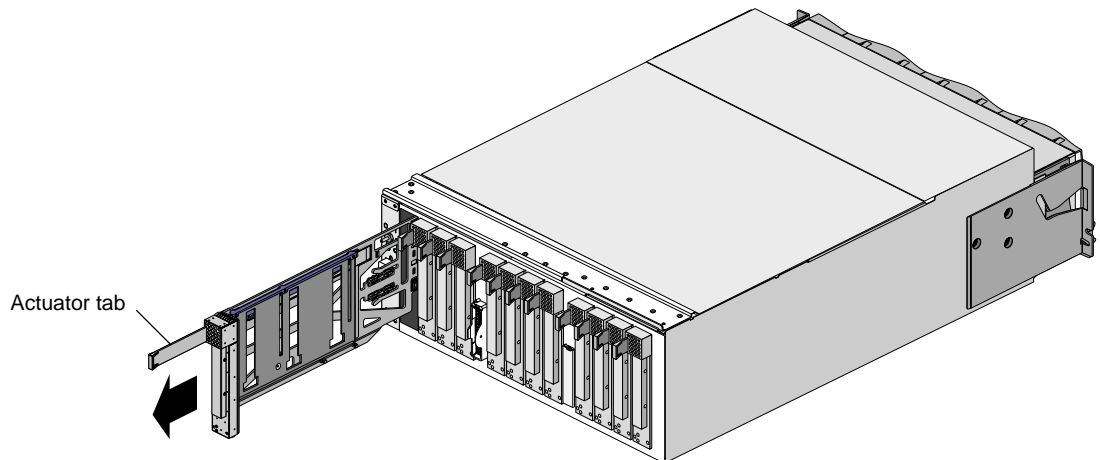

Figure 2-2 Removing PCI Card Carrier
1. Remove the PCI carrier from the PCI slot in which you want to add or replace a PCI card. Pull out the PCI carrier actuator tab to extract it from the PCI slot; grasp the PCI card carrier by its edges and slide it out of the module, as shown in Figure 2-2.